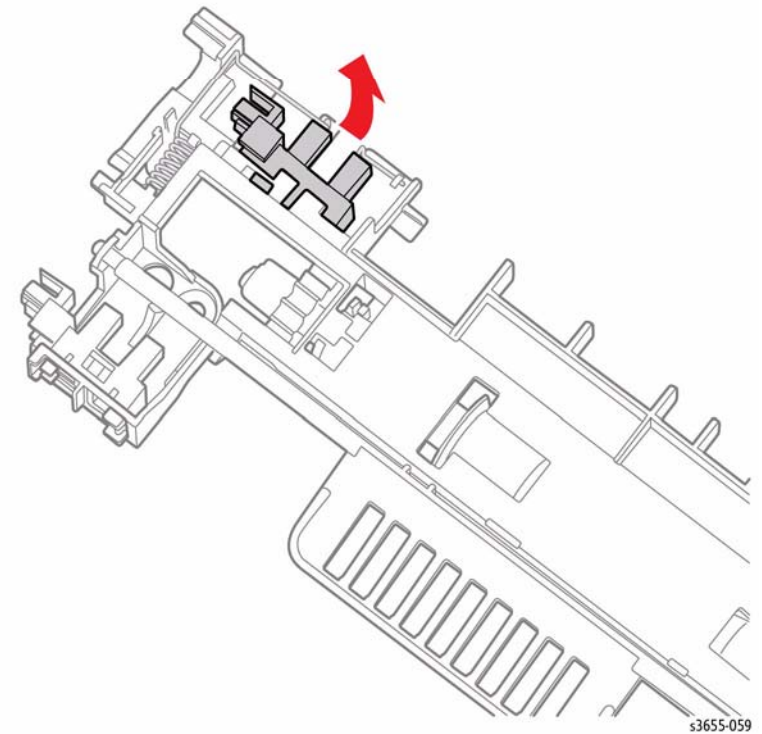

Figure 1 Remove the Full Stack Sensor
2. Refer to Figure 1 to locate and release the hooks that secure the Full Stack Sensor to the Exit Chute Assembly.